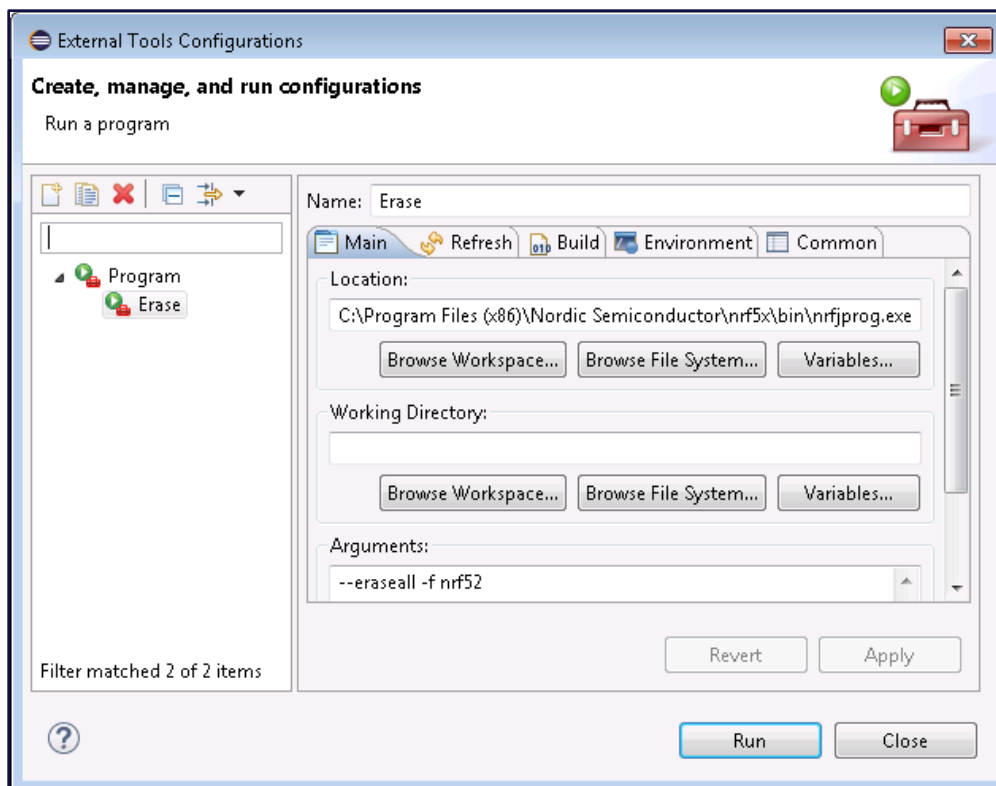

Figure 22: Adding Erase to External Tools Configurations
6. Click **Apply**, then click **Run** (Figure 22).